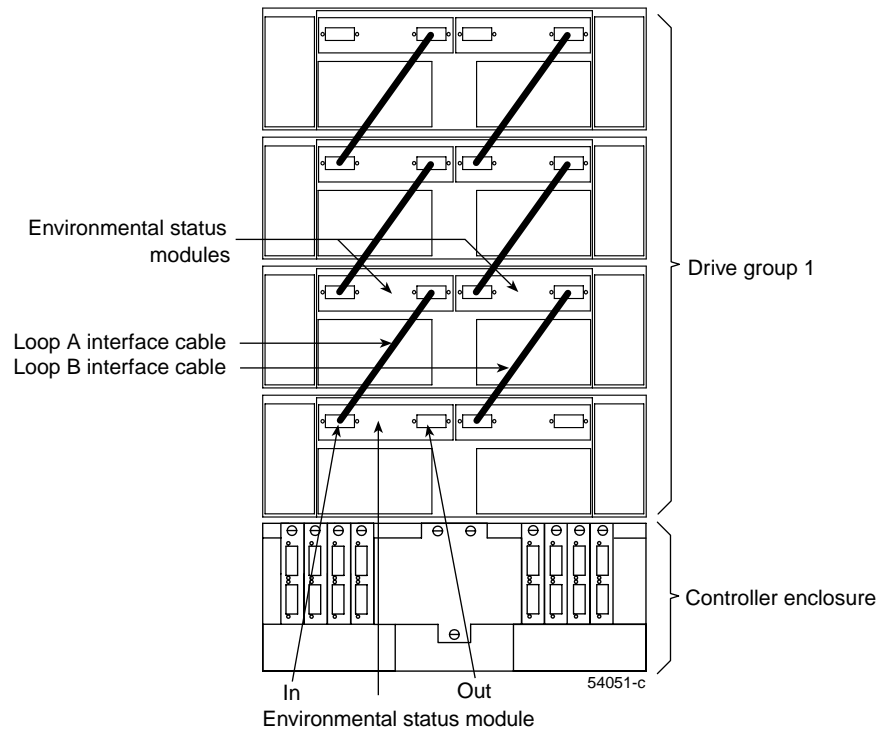

Figure 8-2 Connecting Additional Drive Enclosures to Drive Loops A and B
3. Connect additional drive enclosures to drive loops A and B (see Figure 8-2).